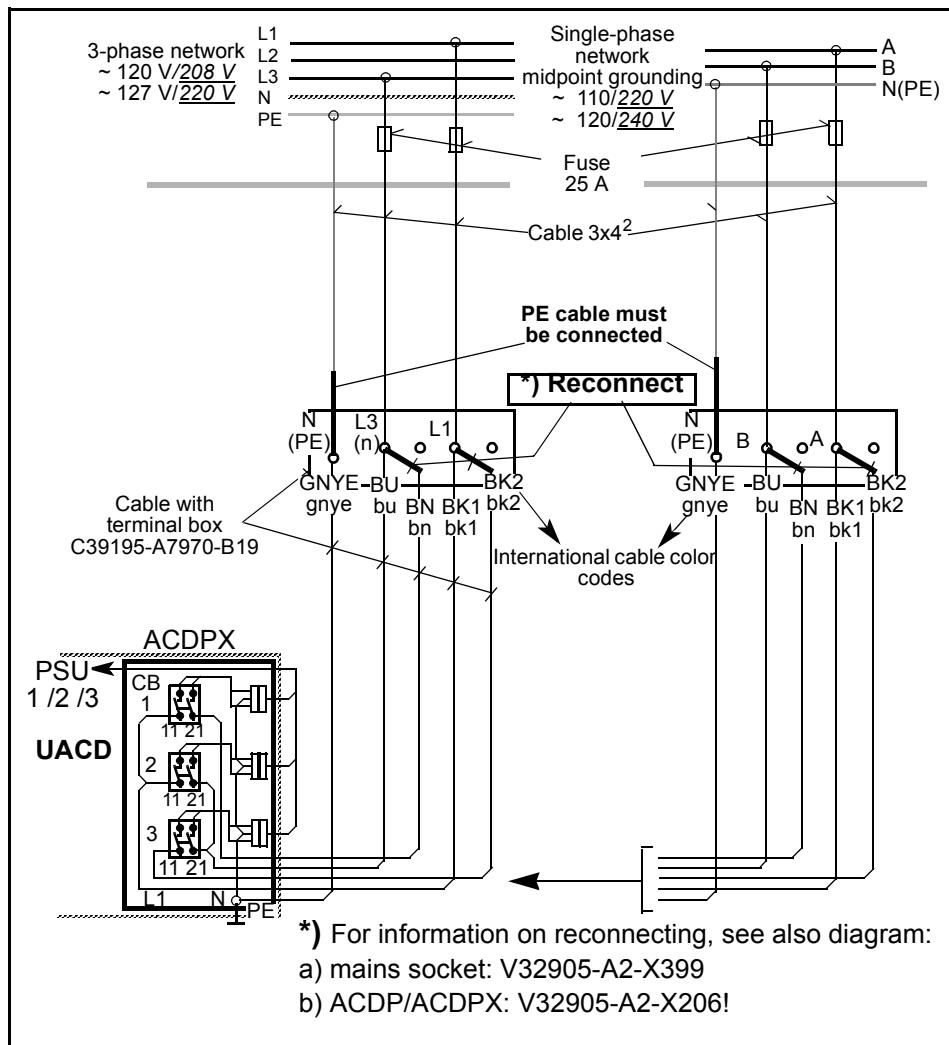

Figure 8 Three-phase/single-phase connection with midpoint grounding
- a) Insert and secure the blue (BU) and brown (BN) wires together in the junction box.
- b) Insert and secure both black (BK) lines together.
- c) Connect the power switches 1, 2 and 3 to the ACDPX in the power supply frame UACD, as shown in the Figure 8.